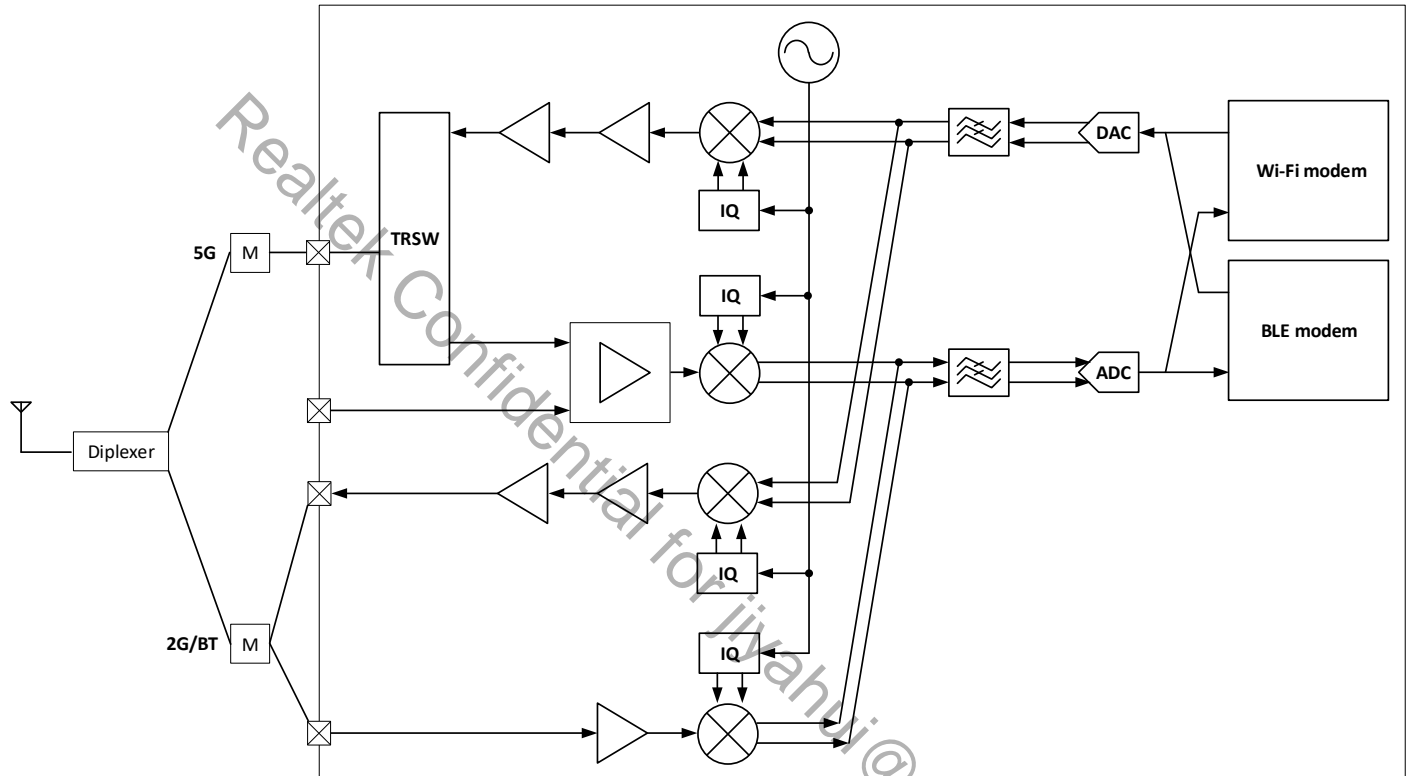

Figure 6-1 RF block diagram
The radio frequency (RF) block diagram of RTL872xD, including Wi-Fi and BLE modem, is given in Figure 6-1.